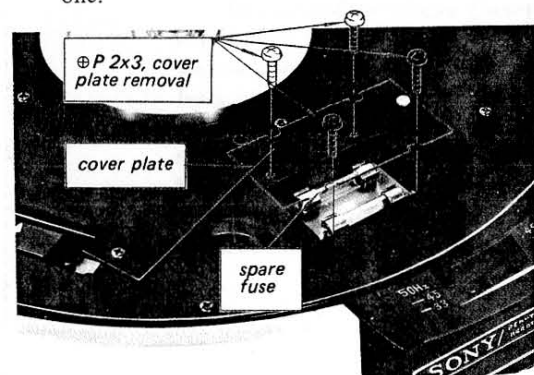

Fig. 2-9. Fuse replacement
1. Remove the four screws shown in Fig. 2-9. This frees the cover plate.